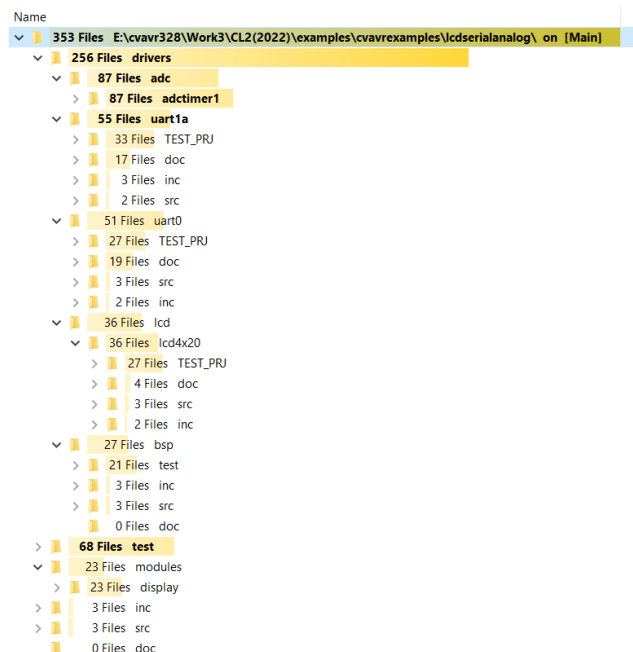

Figure 26 – Example 3 /Icdserialanalog directory structure
3.c Example 3 / Icdserialanalog: This example builds on the /serialanalog example, adding alphanumeric LCD display capabilities through the /lcd driver, and adding a higher level /module/display component. The directory structure is similar to Example 2, and is shown in Figure 26.